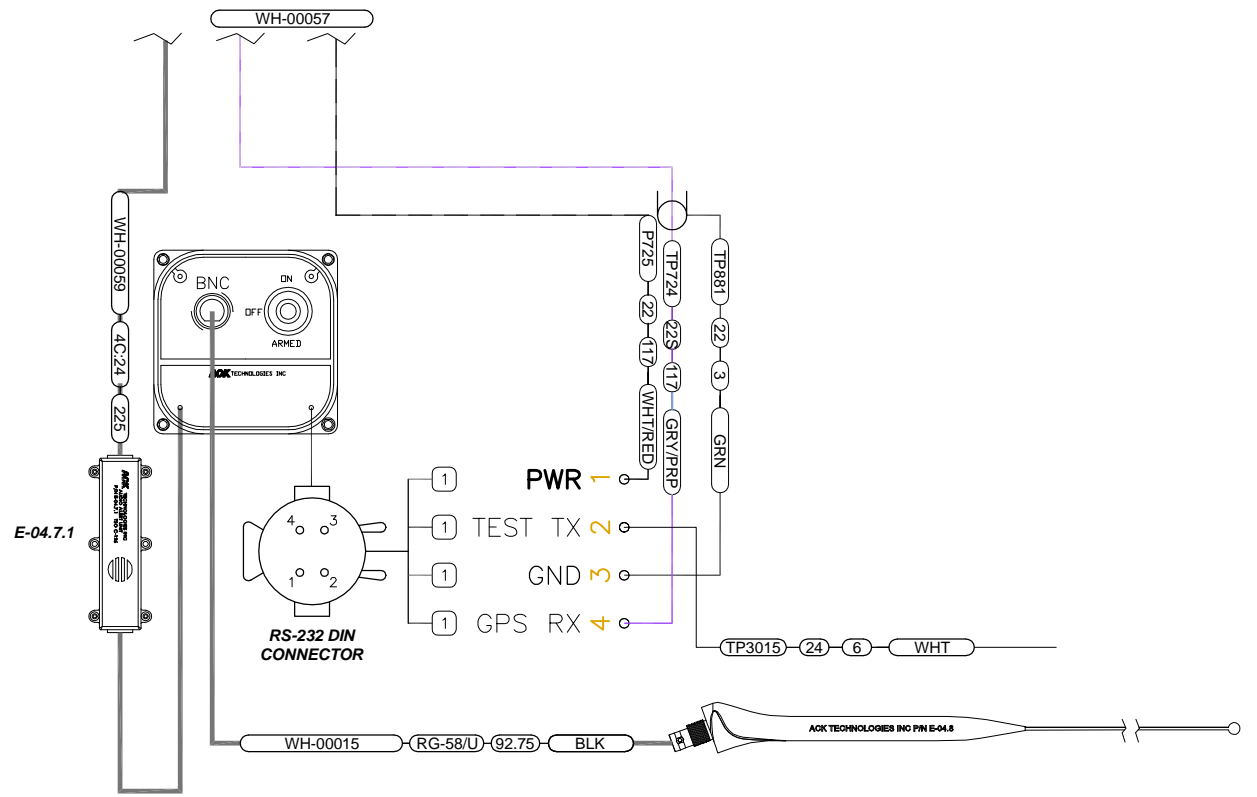

FIGURE 3: DIN CONNECTOR WIRING DIAGRAM
Step 4: Connect the phone cable from the ELT into the forward socket in the E-04.7 Audio Alert. See Figure 1 and Page 3 Figure 3.